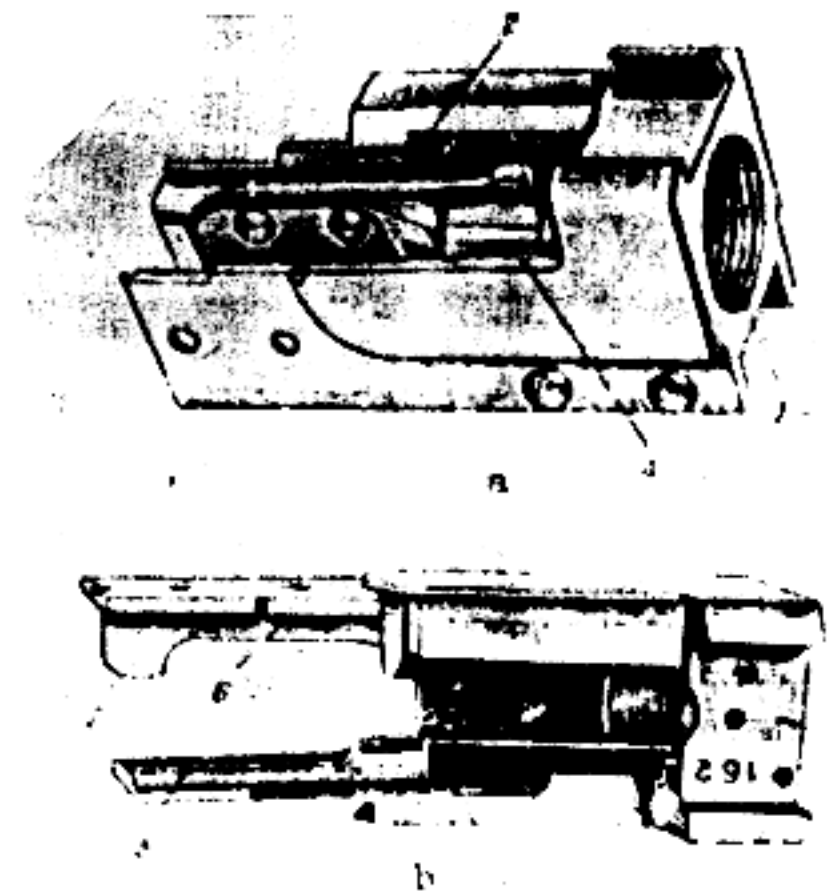

Figure 15. Insert of stamped receiver (assy. 1-7).
The insert of the stamped receiver (fig. 15) is provided with threads (1) for the barrel; shoulders (2 and 3); forward portion of bolt guides (5 and 6); extractor (7); groove (8) for the rear sight base; notch (9) for the fore end; recess (10) and shoulders (11) for holding the magazine.